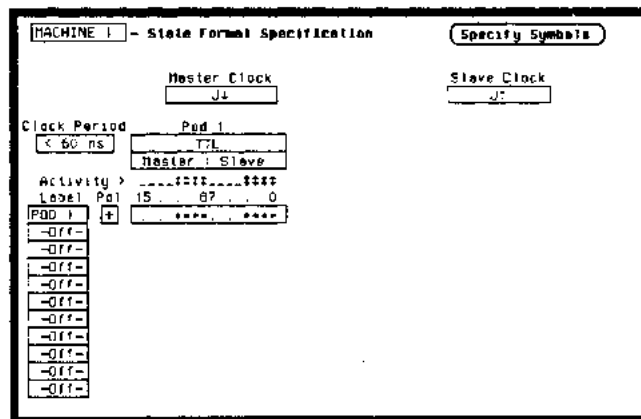

Figure 3-24. Format Specification for Data Test 5
4. Set up the **State Format Specification** as in figure 3-24. Assign the falling J clock to the **Master Clock** and the rising J clock to the **Slave Clock**. Refer to steps a through d after figure 3-24 if you are unfamiliar with menus.